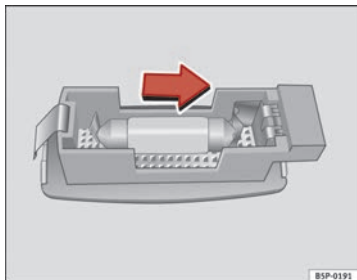

Fig. 213 Removing sun visor light
- Carefully remove the lamp, using the flat side of a screwdriver, as shown in the figure ⇒ Fig. 213.
- Remove the bulb, moving it in the direction of the arrow and outwards ⇒ Fig. 213.